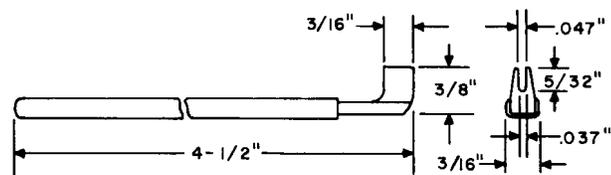

Fig. 1—50B Adjuster Tool
2.01 50B: The 50B tool (Fig. 1) is a spring adjuster used to adjust the relay springs on the 111- and similar-type relays and elevator apparatus. The 50B replaces the 50 and 327 tools.